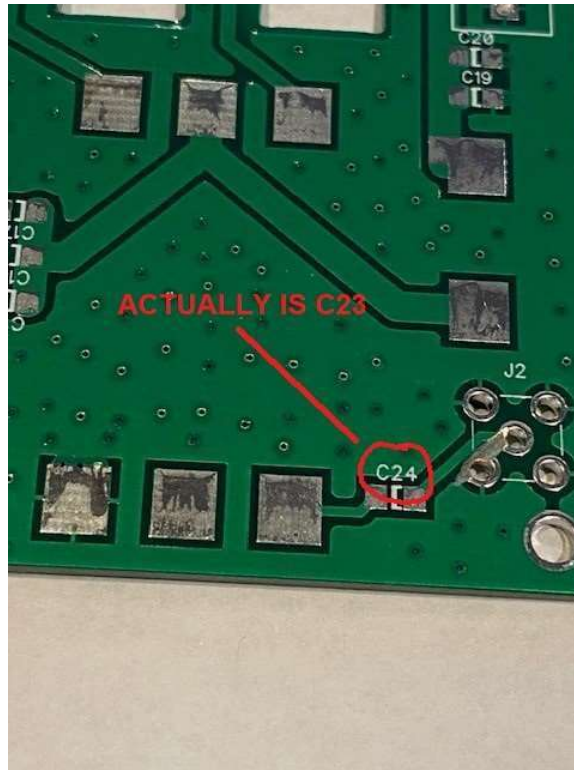

Figure 5. C24 Misabeled. This Is Actually C23.
4. Place all chip capacitors and resistors on the board. Use the schematic placement if there are any issues reading the part legends on the PCB. **NOTE that C23 is mis-marked on V2.3 and earlier PCBs as C24 (see Figure 5).**